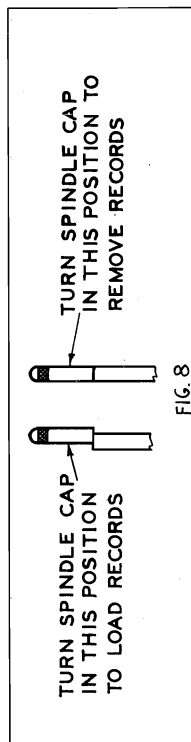

FIG. 8
1. To check this alignment, turn the spindle-cap so it is in alignment with the rest of the spindle, which is the correct position for removing records. (See Fig. 8.)